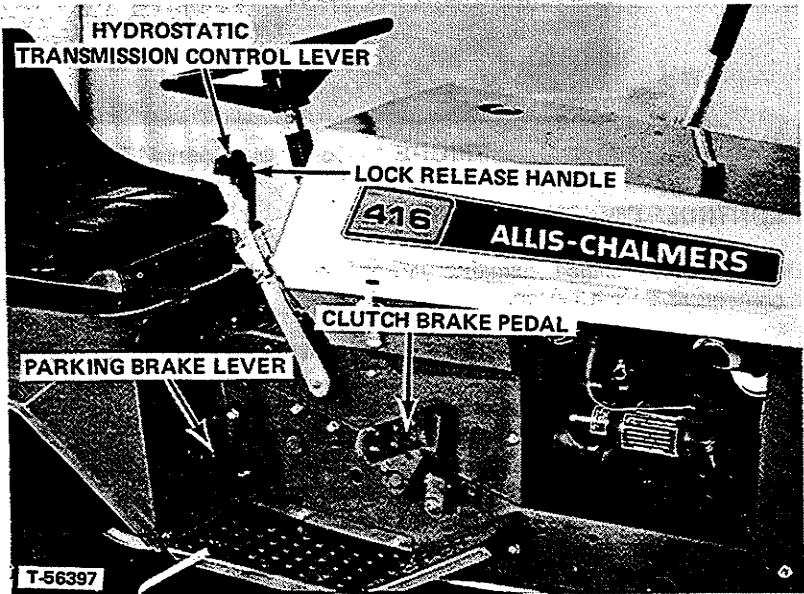

FIGURE 4
NOTE: Lock is located on right hand fender on hydrostatic transmission tractors, (Figure 4).
2. HYDROSTATIC TRANSMISSION CONTROL LEVER (Figures 4 and 6)
On hydrostatic transmission tractors: Place the hydrostatic transmission control lever against the neutral position notch on quadrant and place front PTO clutch switch in "Off" position to activate the interlock safety switches (Figures 4 and 6).